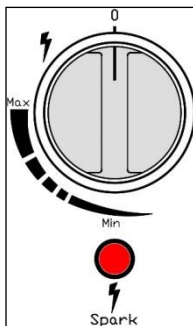

Figure 11
- Holding the knob in position, **press the red spark button underneath the knob until the pilot light is switched on** (Figure 11)
NOTE - to turn off the heater, turn the knob **back to 0** = ZERO (Figure 11).
With the pilot light on, turn the knob to MAX or MIN as on the label (Figure 11) until the desired comfort level is reached.